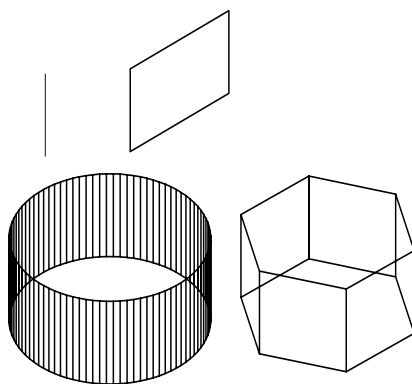

Figure 2-44 A point, line, polygon, and circle drawn with a thickness of 5 units
3. Figure 2-44 shows a point, line, polygon, circle, and ellipse drawn with a thickness of 5 units.